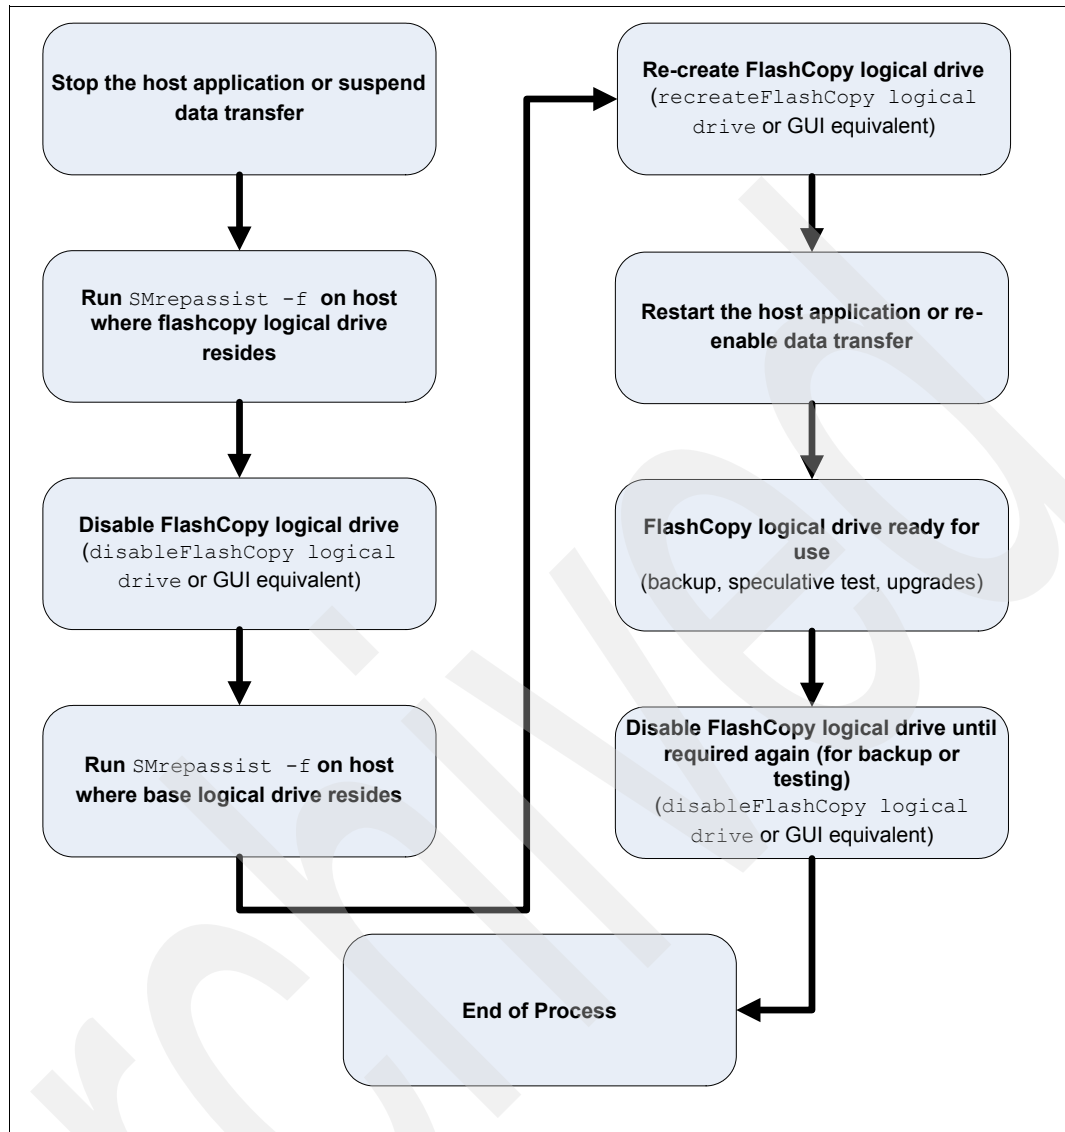

Figure A-2 Re-using disabled FlashCopy logical drives - Windows basic/regular disks
- Reuse a disabled FlashCopy logical drive on Windows server 2003 or 2008. See Figure A-2 on page 728.